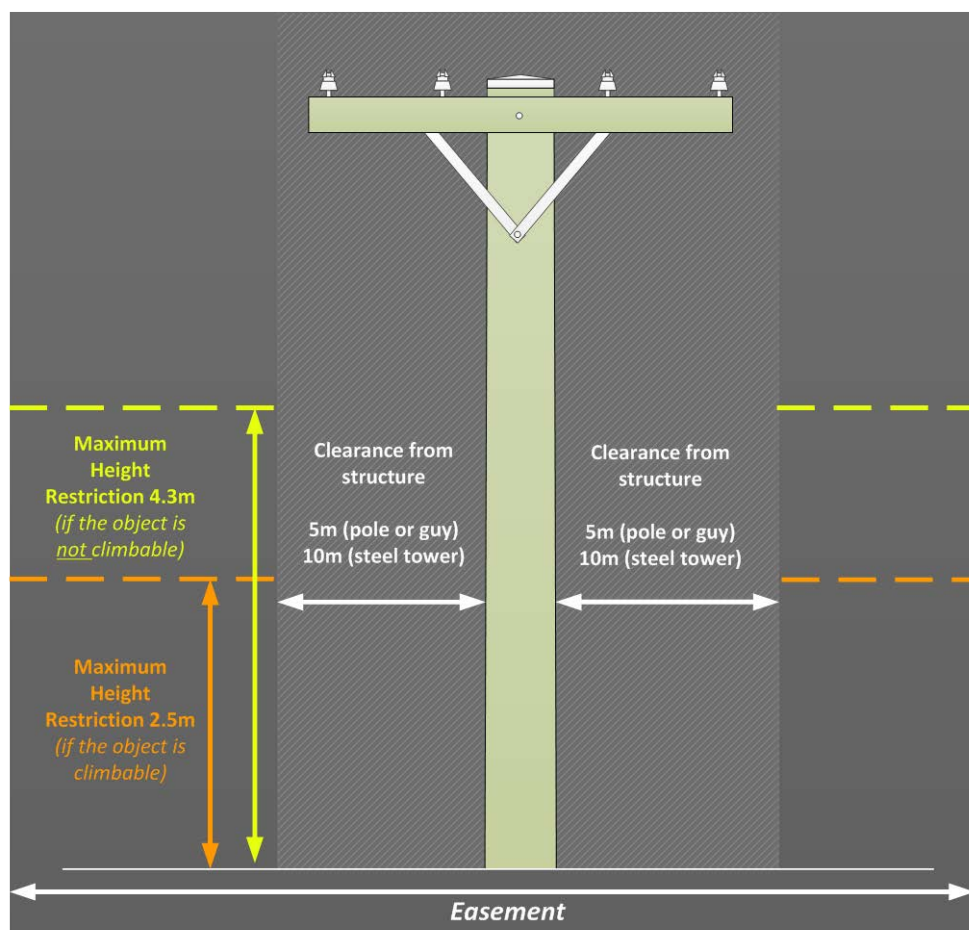

Figure 6 - Overhead line restriction within easement
- Does not allow a person to breach the safety clearances to the network, namely, allow any part of a person to be greater than 4.3m above the ground (See Figure 6) ;
- Access to Endeavour Energy assets are not reduced and the minimum requirements of Figure 6 and clause 5.19 are adhered to.